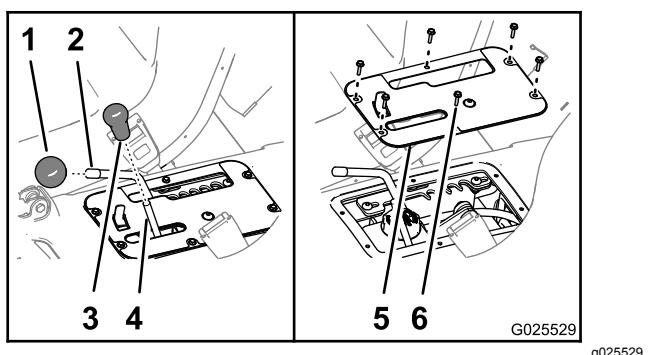

Figure 60
- Align the holes in the control-cover plate to the holes in the seat base (Figure 60).
- Secure the plate to the base with the 6 hex-washer screws (Figure 60) that you removed in step 2.
- Thread the knobs onto the rods for the hydraulic-lift lever and the speed-range lever (Figure 60).
- Remove the 6 hex-washer screws (#10 x 3/4 inch) that secure the control-cover plate to the seat base, and remove the cover plate (Figure 60).
- Remove the knobs from the hydraulic-lift lever and the speed-range lever (Figure 60).
3. Remove the 6 hex-washer screws (#10 x 3/4 inch) that secure the control-cover plate to the seat base, and remove the cover plate (Figure 60).
9. Align the holes in the control-cover plate to the holes in the seat base (Figure 60).
10. Secure the plate to the base with the 6 hex-washer screws (Figure 60) that you removed in step 3.
11. Thread the knobs onto the rods for the hydraulic-lift lever and the speed-range lever (Figure 60).